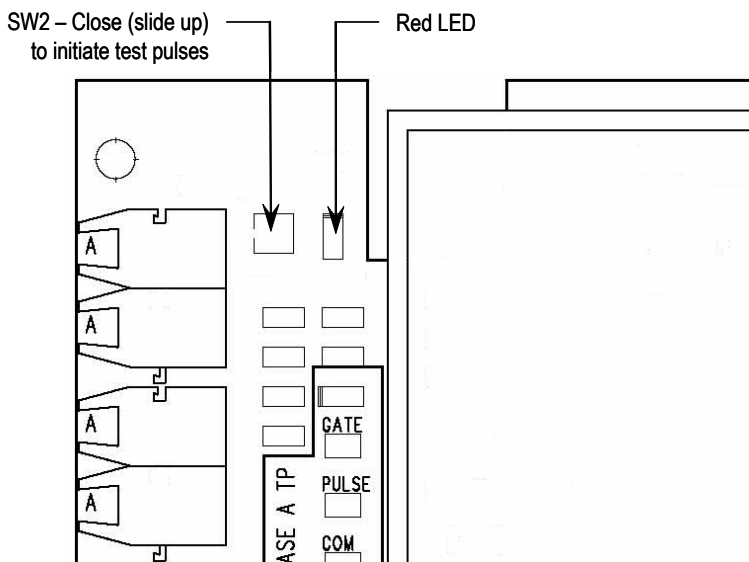

Figure 3.3 – Interface PCB
11. Open the switch **SW2** on the interface board (see Figure 3.3) before returning the unit to service. Ensure the red LED is off.